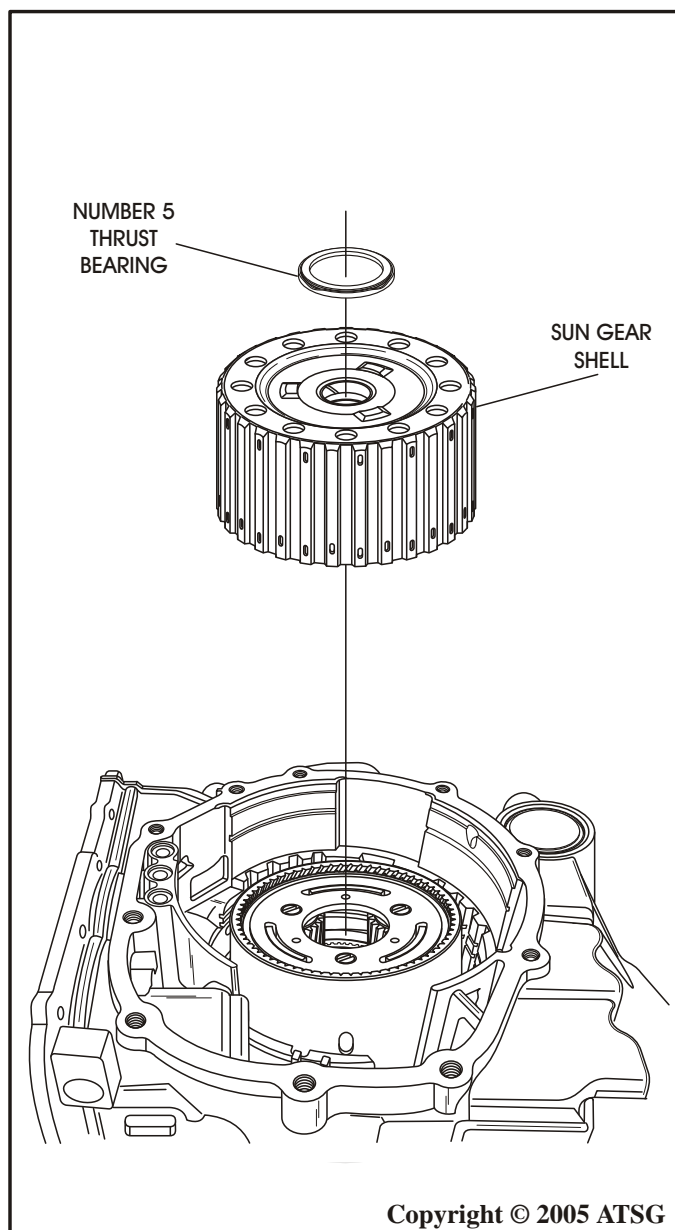

Figure 47
43. Remove the number 5 thrust bearing and the sun gear and shell assembly (See Figure 47).